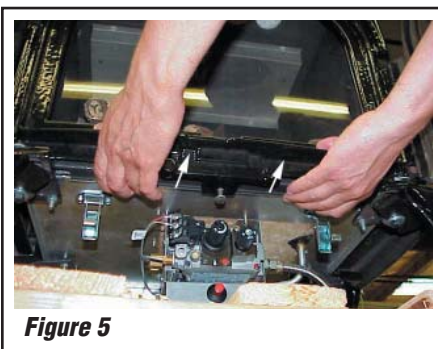

Figure 5
3. Reach under the bottom front of the front glass enclosure and pull it forward as shown in figure 5.